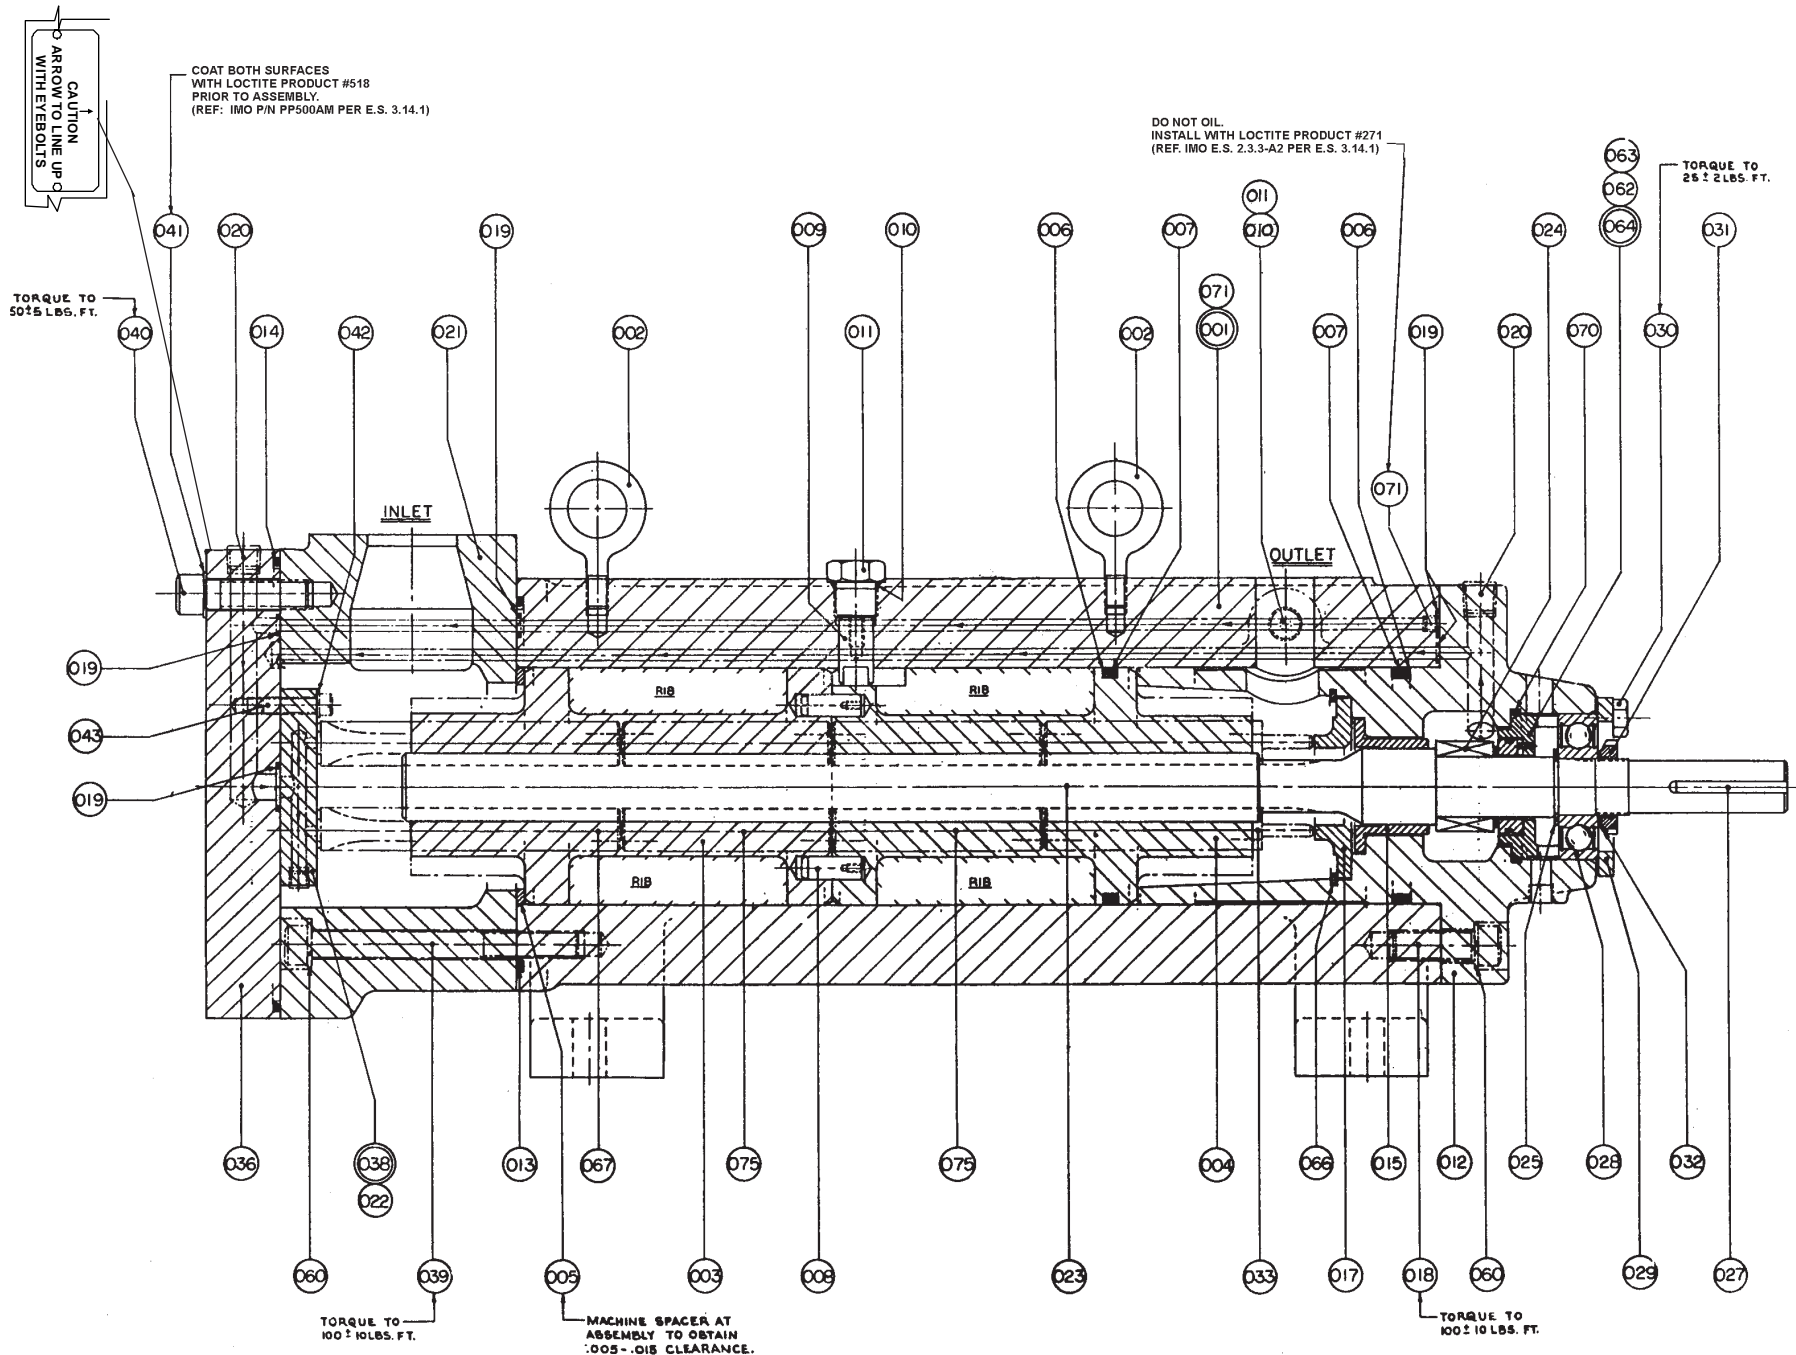

FIGURE 3 - PUMP ASSEMBLY - ROTOR SIZE 118
## H. 5 Remove Outboard Cover (Suction Side) – See Figures 3, 4 and 5
**NOTE:** Prior to assembly, all parts should be cleaned and inspected for nicks and burrs. Replace all worn or damaged parts. Imo Pump recommends automatic replacement of mechanical seal (24), ball bearing (28) and O-rings (7, 10, 13, 14, 19 and 70) when these parts have been disturbed from their previously installed positions. Prior to assembly, wipe all parts including fasteners with a lubrication fluid that is compatible with the process liquid.
**NOTE:** When assembling the pump, refer to Figure 2 – Mechanical Seal, Figures 3, 4 and 5 – Assembly Drawings and Table 3 – Pump Parts List.
- a. Install idlers (33, 75 and 67) into idler bores of housings (3 & 4) from outboard end of pump. Mesh idlers with threads of power rotor and rotate power rotor (23) in normal pump rotation direction. Idlers will thread into pump housing. Install O-rings (13 & 19) in outboard flange grooves of case (1). Install inlet head (21) into case (1) ensuring that the inlet head idler balance drillings are properly aligned with the idler balance drillings of the case. Install cap screws (39) and (washers (60) 118 rotor size only) to secure inlet head to case. Torque cap screws to values indicated in Table 4.
**NOTE:** Inlet head (21) may be rotated in 90 increments from position shown in Figures 3, 4 and 5.